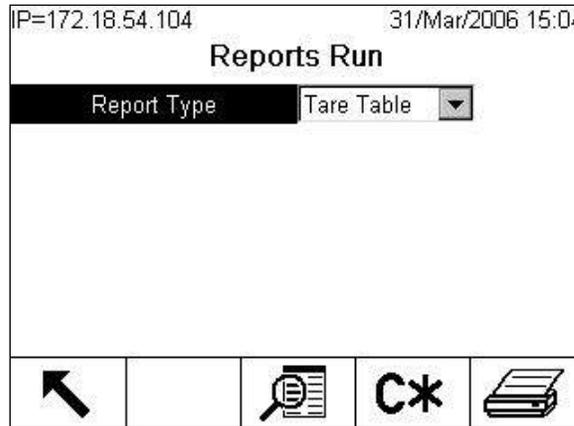

Figure C-47: Reports Run Screen
1. Press the REPORTS softkey . The Reports Run screen displays (Figure C-47).